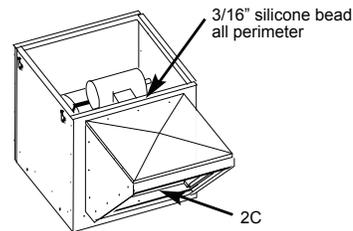

FIGURE 5
5. Caulk per FIG 5. Re-install item #1A.
5. Assemble #3B to #3A via hardware as shown in FIG 5 to complete a set of two legs. Note the legs must be assembled to be right hand and left hand as shown in FIG 6.
Filters are an integral part of the unit. The filters are washable aluminum mesh with sizes and quantities per model listed below. Filter inspection and cleaning intervals will vary depending upon the amount of contaminant present and when this will raise the pressure drop across the filters to an unacceptable level. To clean the filters, first remove the intake housing door marked 2A in Figure 5. The filters can then be pulled up and out of the filter tracks through the top of the intake housing assembly. Use a brush or vacuum for dry dust and contaminants. Then rinse with water in the opposite direction of airflow through the filter. For contaminants that are not easily removed with water a light detergent can be used. Filters should be allowed to dry thoroughly and then placed back within the filter tracks. Replace the intake housing door and all screws as originally found.